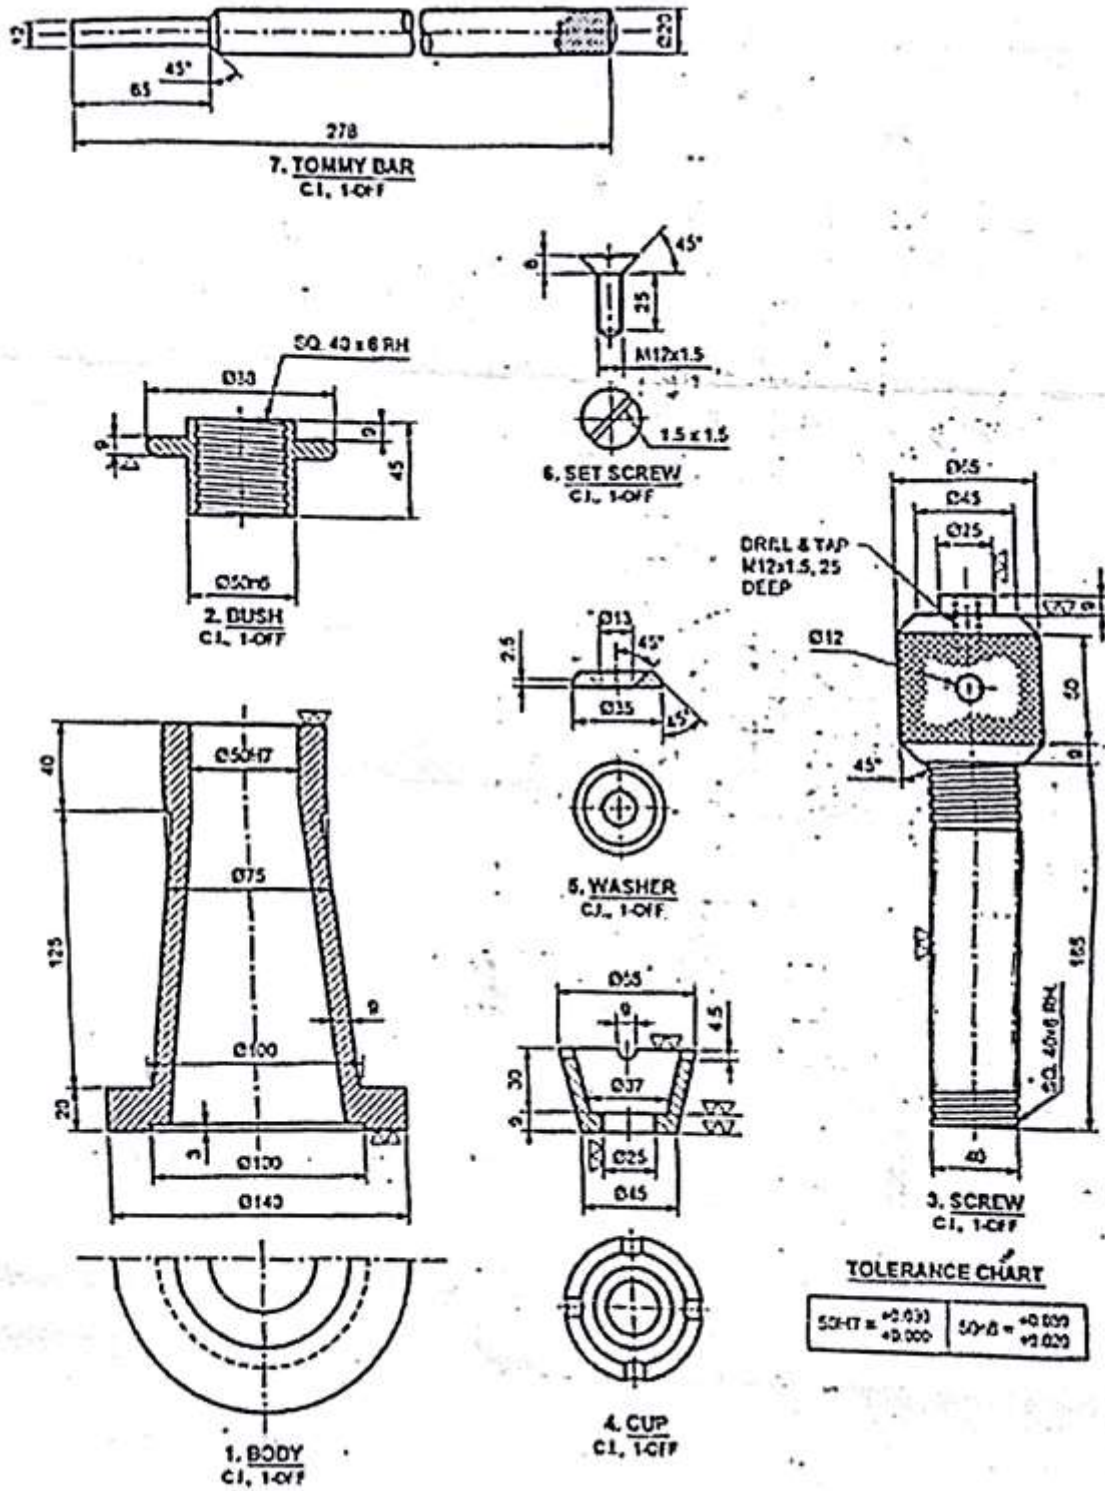

Fig.4
Fig .4 assembly of drilling jig
Q.5 Figure 4 shows details of the screw jack. Assemble all the parts, tabulate the bill of material and draw; 25